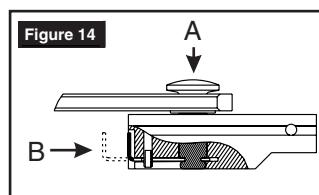

Figure 14
5. Insert stud on arm into slider in track by pressing clip on backside of slider onto stud. (Figure 14)